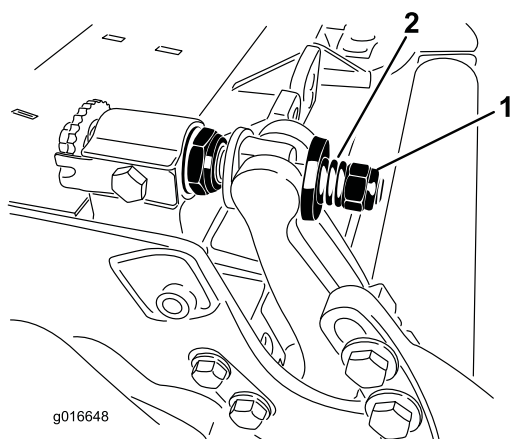

Figure 33
5. Tighten the spring-tension nut until the spring is collapsed, then back off 1/2 turn (Figure 33).
11. Tighten the nut on each bedbar-adjuster assembly until the compression spring is fully compressed, then loosen the nut 1/2 turn (Figure 33).